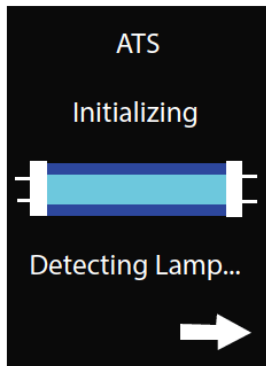

Fig 1
3. Upon start up the U.V. lamp Detector and Timer circuit board will perform a self diagnostic test. When power is applied the circuit board will perform an output check to see if lamp or probe is connected. Once detected, the lamp will light and go into an approximate 2 minute lamp optimization period. **(as shown in Fig 1 - 1D)**